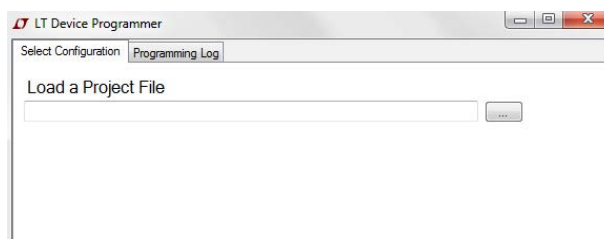
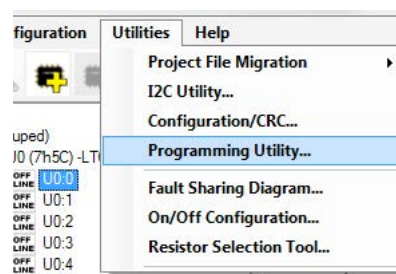

Figure 8. Selecting a .proj File to Program
Figure 9. Utilities > Programming Utility from the Menu
- Launch the LTpowerPlay software from your PC. The device programming utility shown in Figure 8 should pop up automatically. If it does not then select the Utilities>Programming Utility from the menu shown in Figure 9.
- Click “...” next to the selection box and select a .proj file from your system to program the device. See Figure 8.